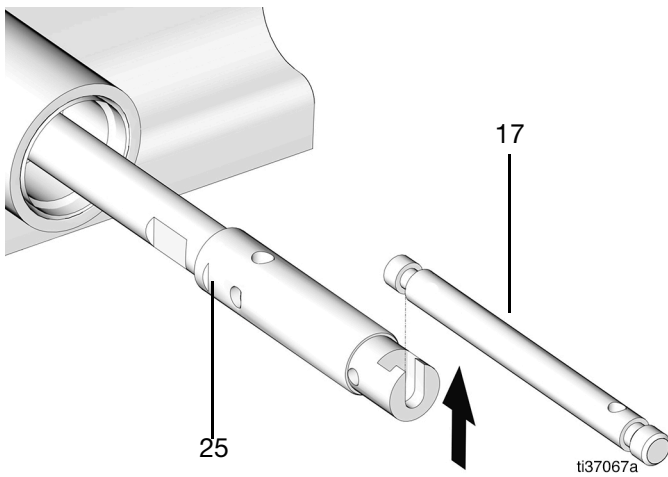

FIG. 42
- 26. Remove the shovel rod (17) from the pump piston (25) (FIG. 42).